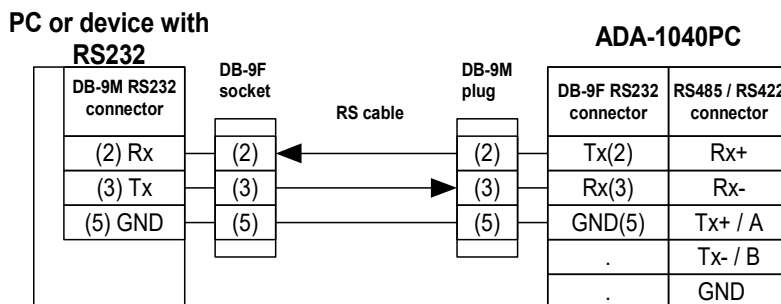

Fig.4. ADA-1040PC1 connection to PC or device with RS232 by the use of cable
- RS232 port of computer or device, should make a cable accordance to Fig.4